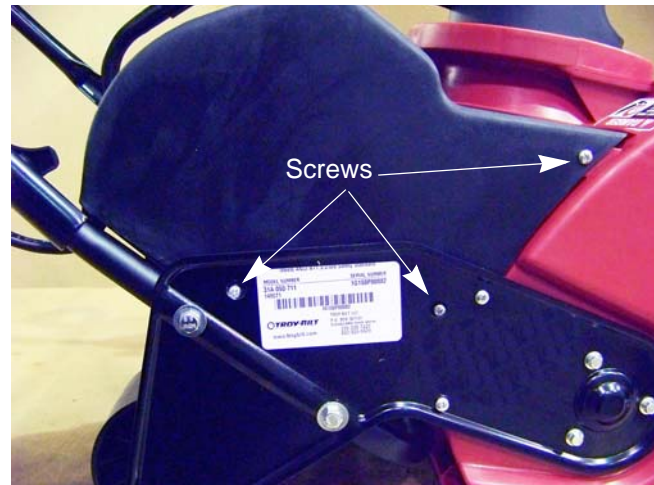

Figure 3.4
3. Remove the three screws that hold the right side of the motor cover to the auger housing using a #2 phillips screw driver. See Figure 3.4.